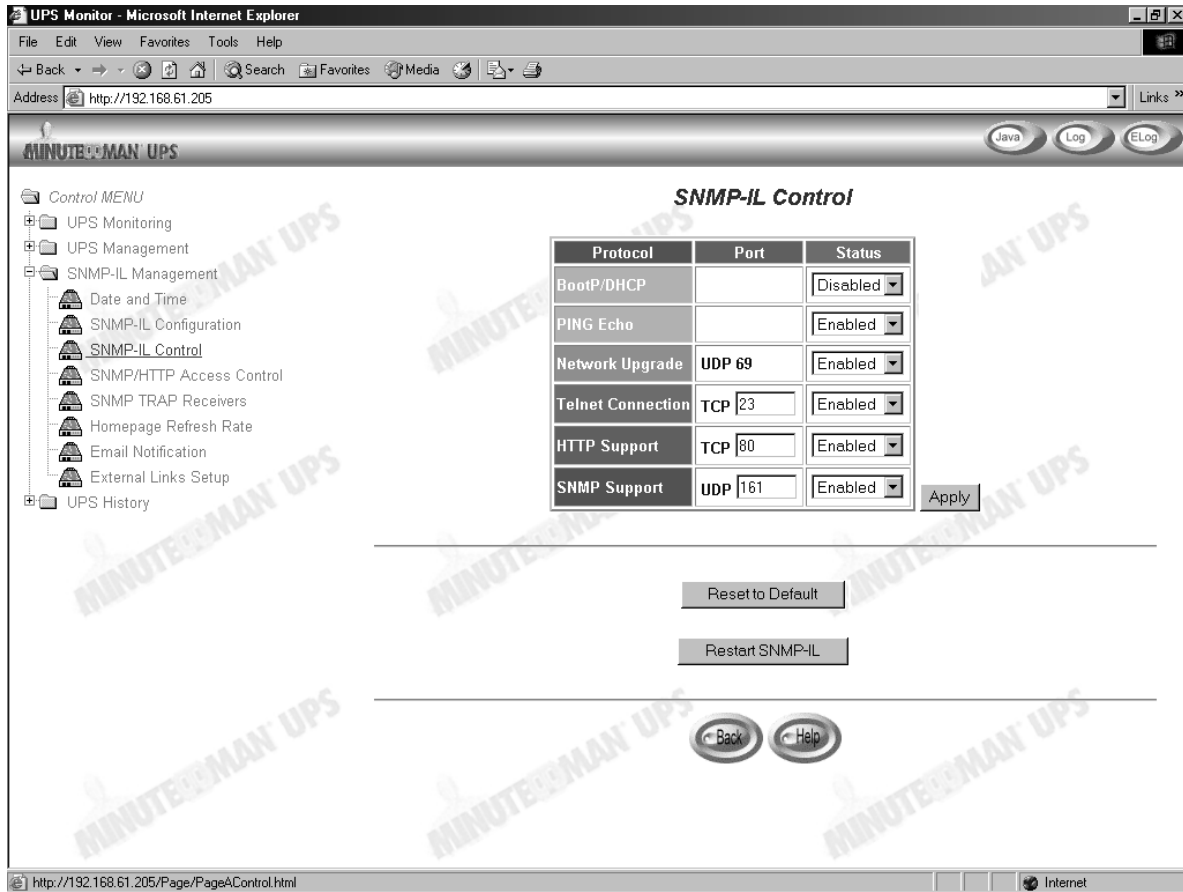

Figure 2-15 SNMP-IL Control page.
10. Select SNMP-IL Control to enable or disable the network protocols (Figure 2-15).